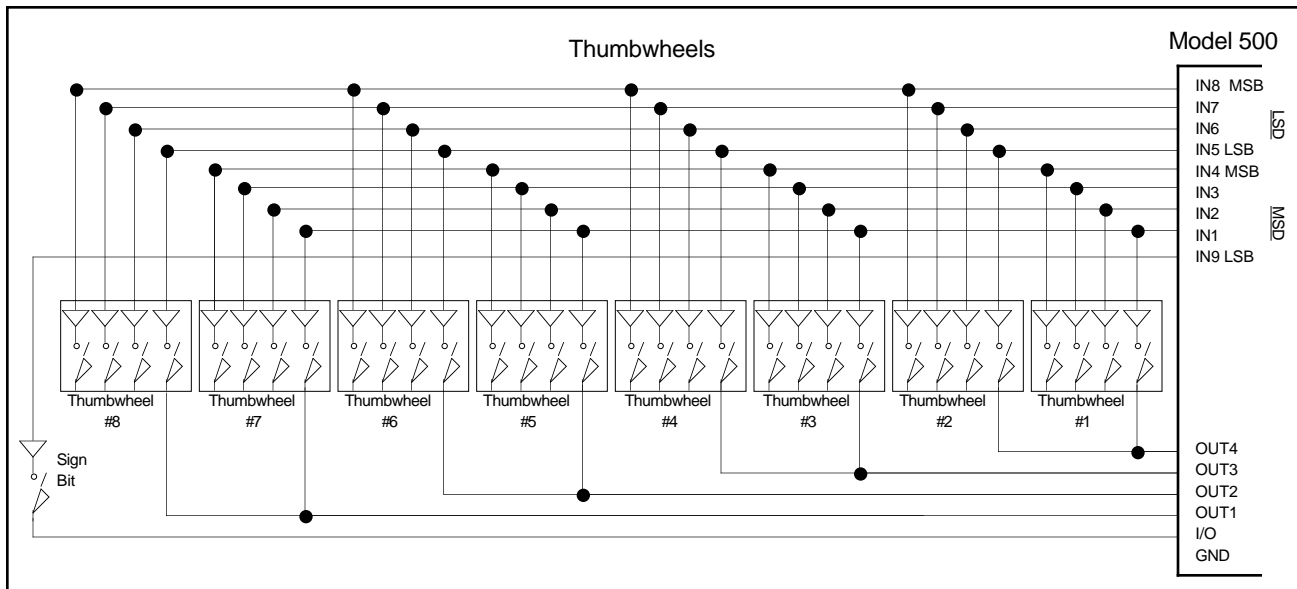

Figure 4-15. Thumbwheel Connections to the Model 500
- STEP ①** Enable the PLC Mode with the `TW0` command. The PLC mode allows you to use the 500 with a PLC or your own thumbwheels. The 500 provides certain commands that aid you in using a PLC. This will be covered later in the section entitled *PLC Operation*.
- STEP ②** Wire your thumbwheels according to the schematic in Figure 4-15.